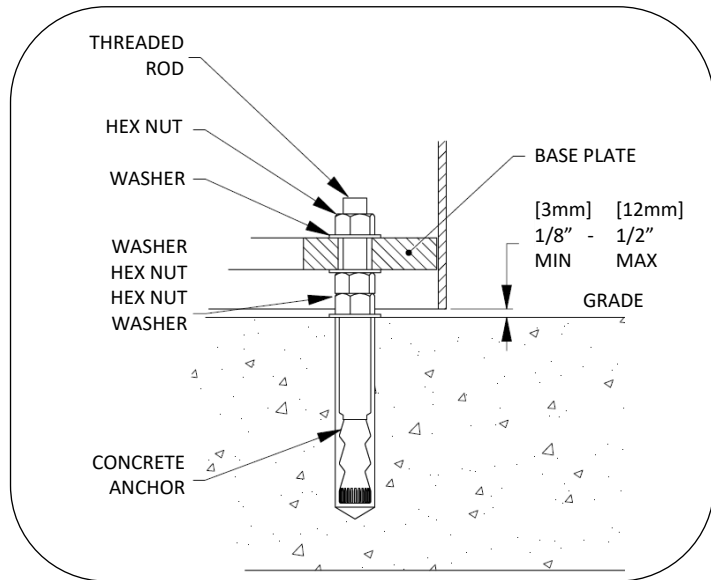

FIG. 2 – ANCHOR ASSEMBLY
9. Install washer, two hex nuts and washer onto each threaded rod, see Fig. 2.